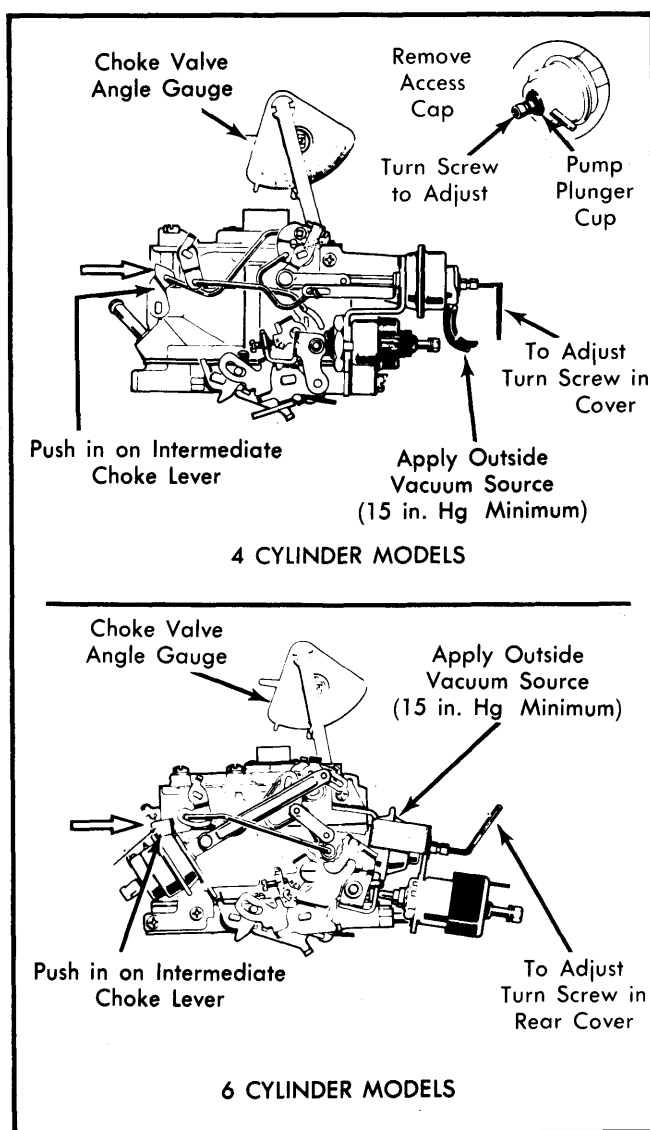

Fig. 7 Primary Vacuum Break Adjustment
1) Remove primary choke vacuum break from carburetor. Place vacuum break bracket in vise and carefully grind off adjustment screw cap. Reinstall vacuum break. Using an outside vacuum source, seat choke vacuum break diaphragm. See Fig. 7. Air valve rod should not prevent seating of vacuum break diaphragm.